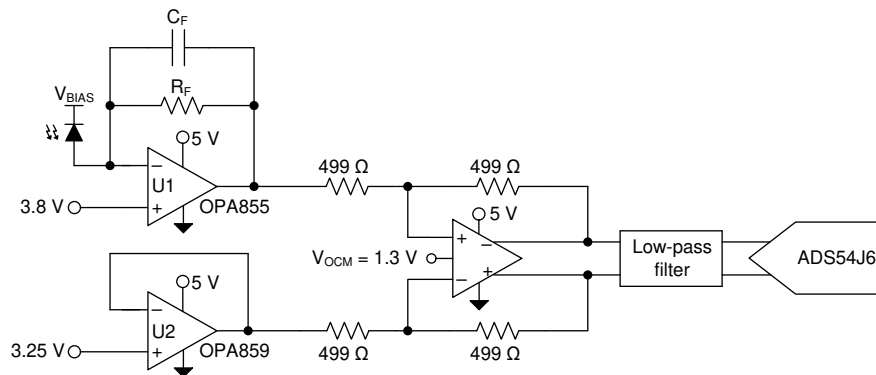
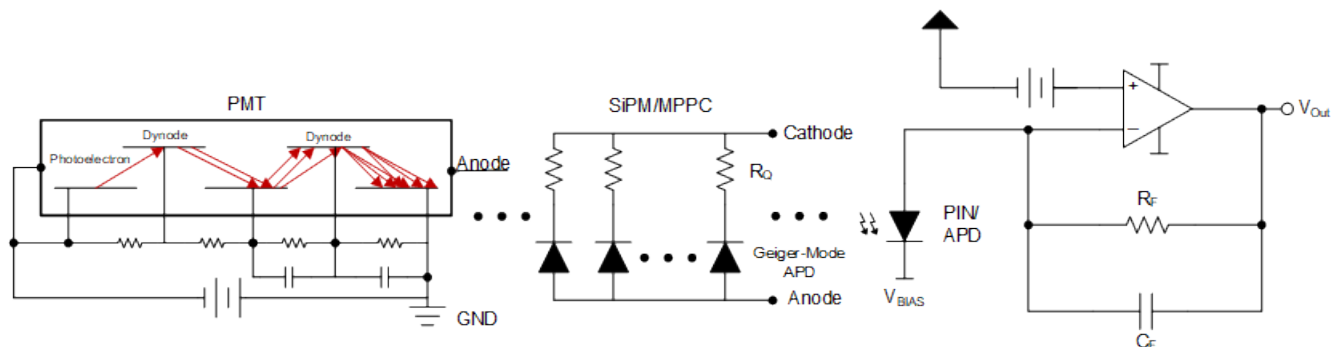

図 10-1. OPA855 as a TIA in an Optical Front-End System
Figure 10-5. Transimpedance Amplifier with APD or SiPM/MPPC or PMT Inputs
図 10-1 shows the OPA855 configured as a transimpedance amplifier (U1) in a wide-bandwidth, optical front-end system. A second amplifier, the OPA859-Q1, configured as a unity-gain buffer (U2) sets a dc offset voltage to the THS4520. The THS4520 is used to convert the single-ended transimpedance output of the OPA855 into a differential output signal. The THS4520 drives the input of the ADS54J64, 14-bit, 1-GSPS analog-to-digital converter (ADC) that digitizes the analog signal.
Figure 10-1 shows the OPA855 configured as a TIA, with the avalanche photodiode (APD) reverse biased so that the APD cathode is tied to a large positive bias voltage. In this configuration, the APD sources current into the op amp feedback loop so that the output swings in a negative direction relative to the input common-mode voltage. To maximize the output swing in the negative direction, the OPA855 common-mode voltage is set close to the positive limit; only 1.2 V from the positive supply rail. The feedback resistance (R_F) and the input capacitance (C_{IN}) form a zero in the noise gain that results in instability if left unchecked. To counteract the effect of the zero, a pole is inserted into the noise gain transfer function by adding the feedback capacitor (C_F).
OPA855 offers 8 GHz of gain bandwidth, high slew-rate, and low noise which makes this device suitable for a wide range of photodetectors. Figure 10-5 shows the OPA855 configured as a transimpedance amplifier (TIA) in a wide-bandwidth, optical front-end system. Various types of optical sensors can be used as an optical input to the amplifier: photodiode (PD), avalanche photodiode (APD), Photomultiplier Tube (PMT), and Multi-Pixel Photon Counter (MPPC) or known as Solid-State Photomultiplier (SiPM). Optical detection applications have commonly used APDs, but ultra-low light source detection has been a challenge in past solutions. With technologies such as PMTs and MPPCs, their high intrinsic gain, while maintaining a fast output, requires a low noise, high-speed interface. The OPA855 can accommodate for these optical challenges and would work equally as well in these applications.
図 10-5 shows the OPA855 configured as a TIA, with the optical sensor reverse biased so that the diode cathode is tied to the positive bias voltage. A RC filter can be used at the reverse bias node as a low pass filter to eliminate high frequency noise. The internal capacitance of photodetectors will vary based on sensor type and the value of the applied reverse voltage. The setups between each sensor type will slightly differ, but the connection to the amplifier will be consistent throughout.
The DC voltage bias at the non-inverting input of the OPA855 shown in Figure 10-5 will set the common-mode voltage which will maximize the output swing of the system in mismatched power supply configurations. The DC bias is critical to avoid clipping or saturating the output stage of the amplifier. For the later stages, a fully differential amplifier (FDA) can be used to convert single-ended signal to a differential input to drive an analog-to-digital converter (ADC) as shown in Figure 10-1. Higher order filters can be added between the FDA and ADC for system noise reduction.